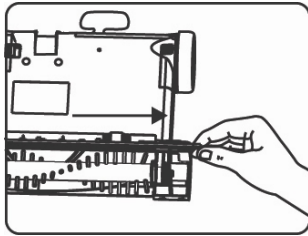

Fig. 15
- To replace the squeegee, follow instructions above for removing the gear box and slide the squeegee out from left to right. (Fig. 15)